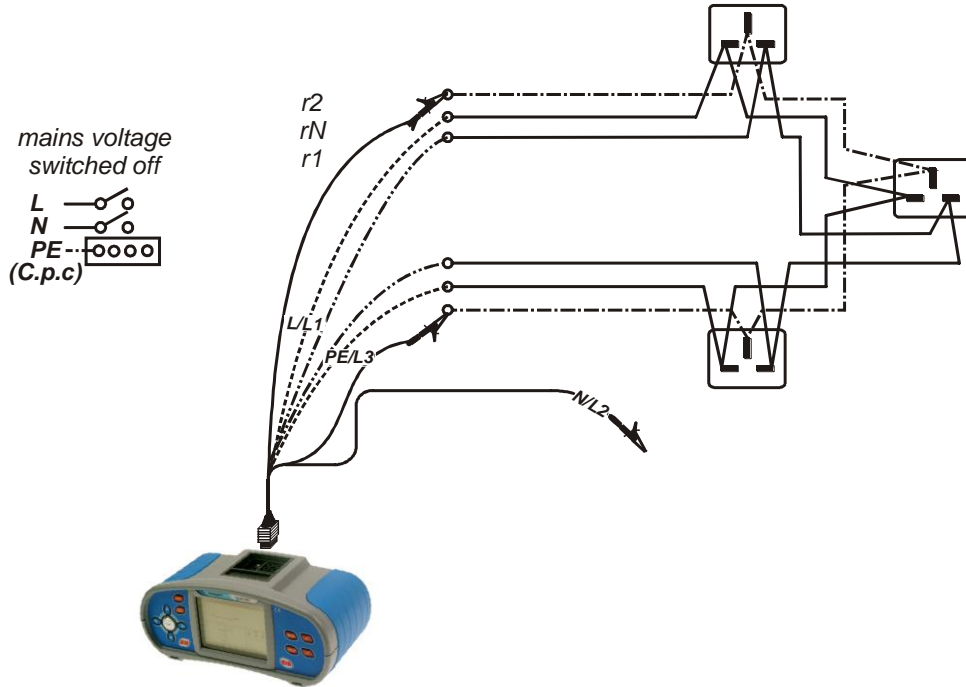

Figure 5.19: Step 1 – measurement of resistances r_1 , r_N and r_2
- ❑ For r1, rN, r2 measurements refer to figure 5.19.
- ❑ For the following measurements refer to figure 5.19.